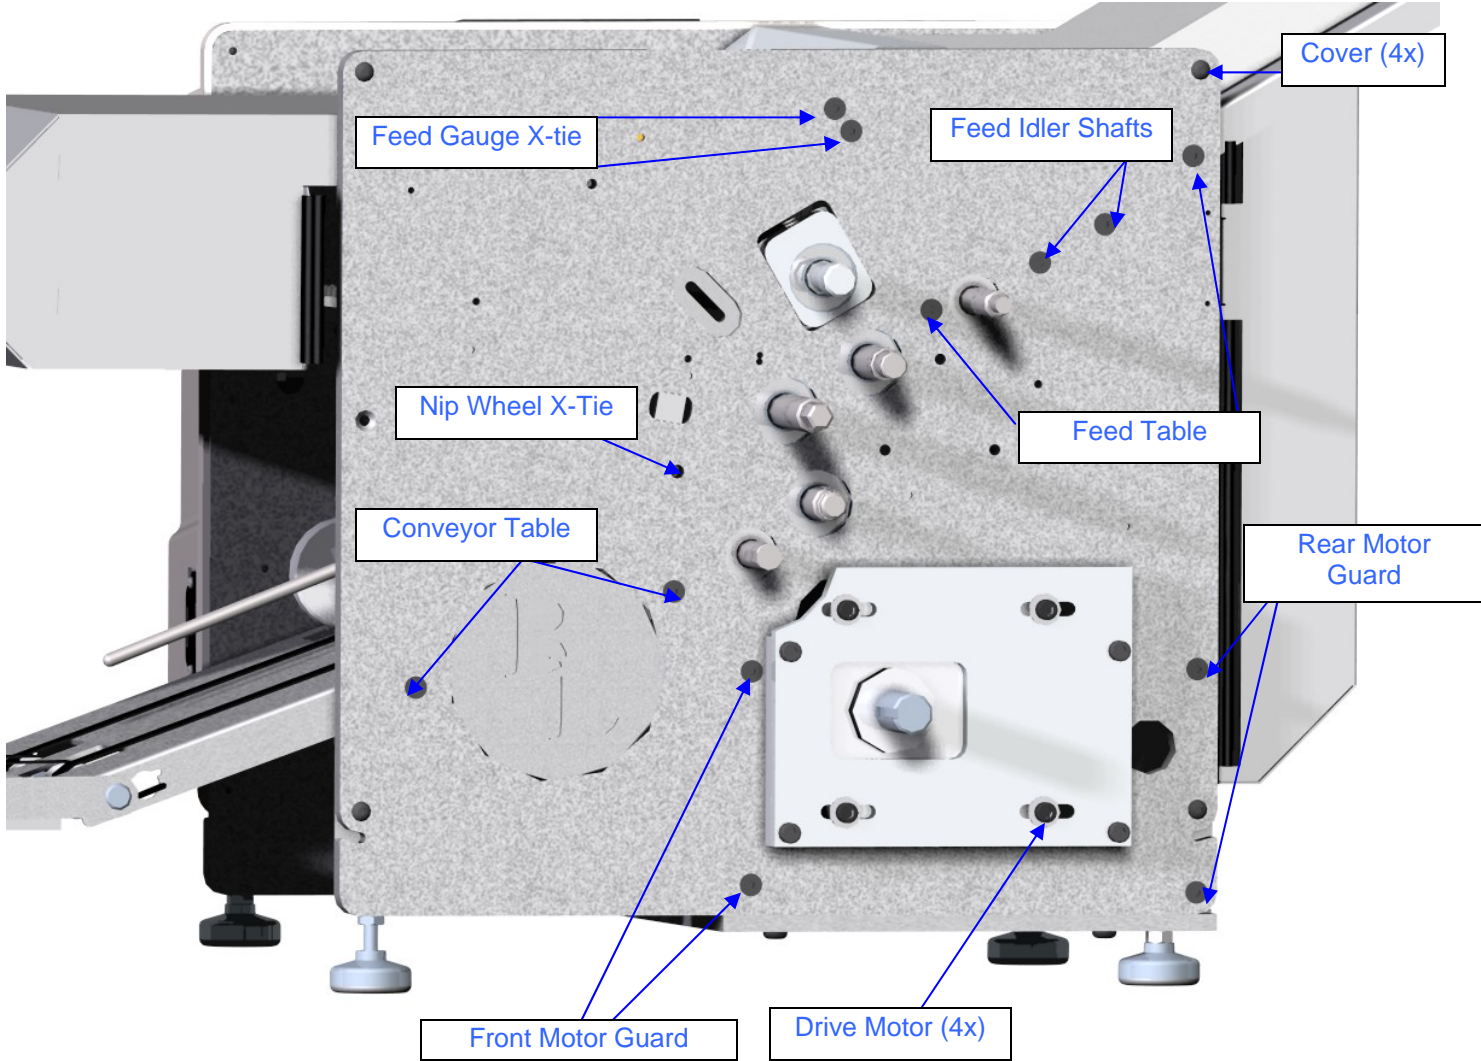

Figure 22: Side Frame Screws
- 3. Remove the **x-tie screws** from both side frames. (See Figure 22)
Note: If the **x-Tie** is too tight in the chassis to remove it may be necessary to loosen the **feed table, feed idler shafts, conveyor, sensor x-tie, and front & rear motor guard screws** on the **motor side frame**. (See Figure 22, Page 22)
3. Remove the **feed gauge x-tie mounting screws** from the drive train side of the chassis. (See Figure 22)
4. Remove the **feed table mounting screws** from the drive train side of the chassis. (See Figure 22)
5. Remove the **feed roller mounting screws** from the drive train side of the chassis. (See Figure 22)
6. Remove the **conveyor table mounting screws** from the drive train side of the chassis. (See Figure 22)
7. Remove the **nip wheel x-tie mounting screw** from the drive train side of the chassis. (See Figure 22)
See Figure 22